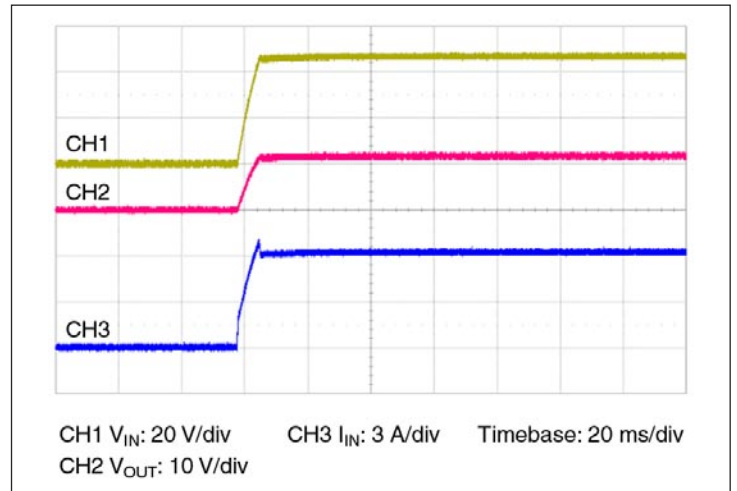

Figure 10 — Start up from application of V_{IN} ; VC pre-applied $C_{OUT} = 375 \mu F$
- **Normal operation (VC applied prior to V_{IN}):** In this case the controller is active prior to ramping the input. When the input voltage is applied, the VTM module output voltage will track the input (See Figure 10). The inrush current is determined by the input voltage rate of rise and output capacitance. If the VC voltage is removed prior to the input reaching 26 V, the VTM may shut down.